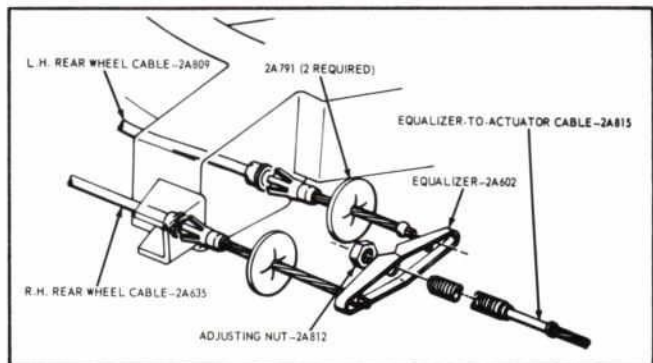
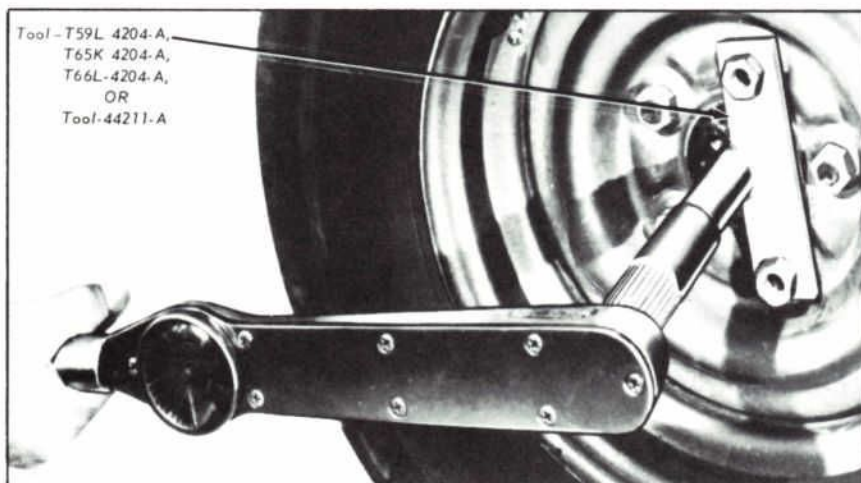

Figure 10—Parking Brake Adjustment—Ford, Mercury, Thunderbird, and Continental Mark III
Figure 12—Checking Parking Brake Breakaway Torque
3. Raise vehicle. With transmission in neutral, turn the adjusting nut forward against the equalizer (Figs. 10 & 11) until there is 100 ft-lb of breakaway torque. Breakaway torque is the torque required to turn the rear wheels in forward rotation with a torque wrench and a tool such as shown in Figure 12. *The torque measurement must be made relative to the center line of the wheel.*
4. Loosen the lock nut and turn adjusting nut forward against the equalizer (Figs. 10 & 13) until there is 100 ft-lbs of breakaway torque. Tighten the lock nut.